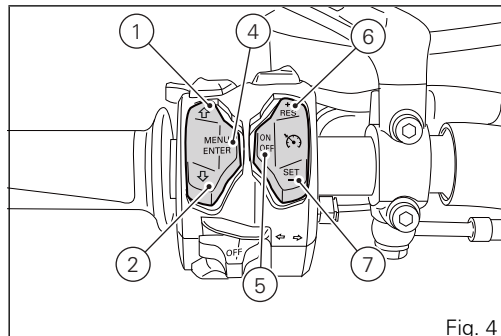

Fig. 4
6) CRUISE CONTROL BUTTON - RES (Resume) / + (more) (Fig. 4)
7) CRUISE CONTROL BUTTON - SET (Setup) / - (less) (Fig. 4)